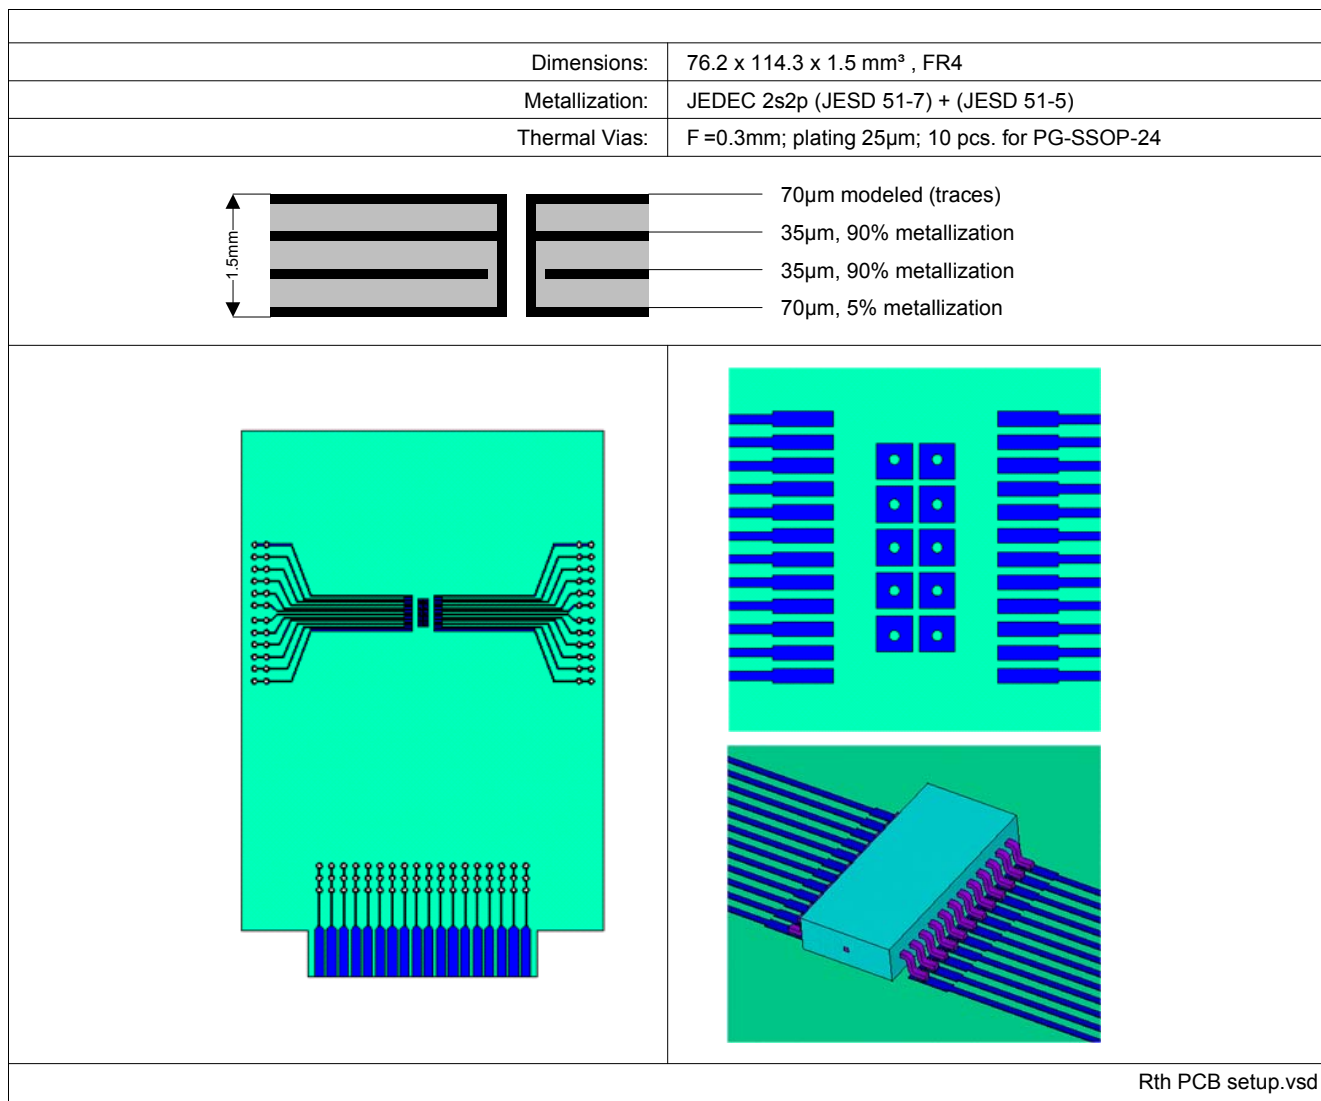

Figure 3 PG-SSOP-24 PCB setup
3) Refer to **Figure 3** for the setup.